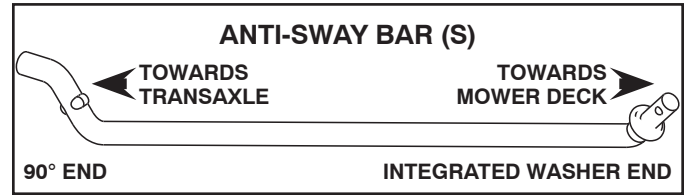

Fig. 31
5. INSTALL ANTI-SWAY BAR (S) (IF EQUIPPED) (See Fig. 31 - 33)